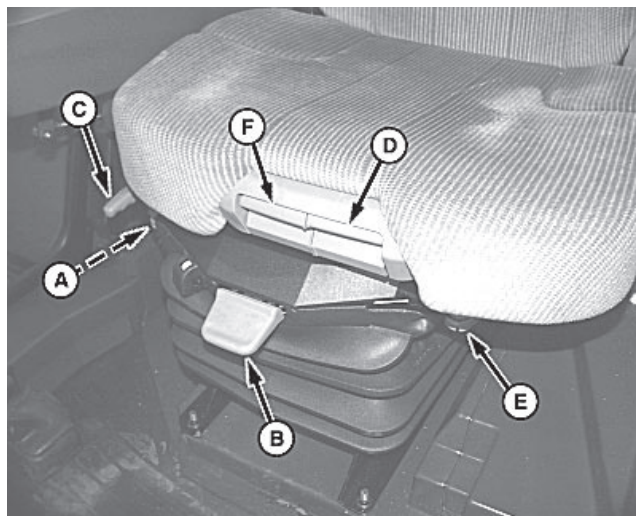

Figure 35. Operator's Seat
Vertical shock dampener handle (A) allows the operator to limit the amount of "upward motion" the seat suspension provides (see Figure 35).